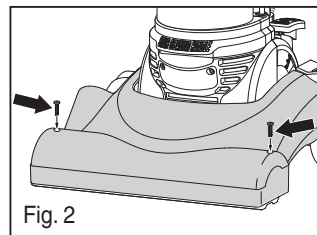

Fig. 2
- 2) Remove 2 screws from the front side of brush roll cover (Fig. 2).
- 7) Replace brush roll cover and 2 screws (Fig. 2).